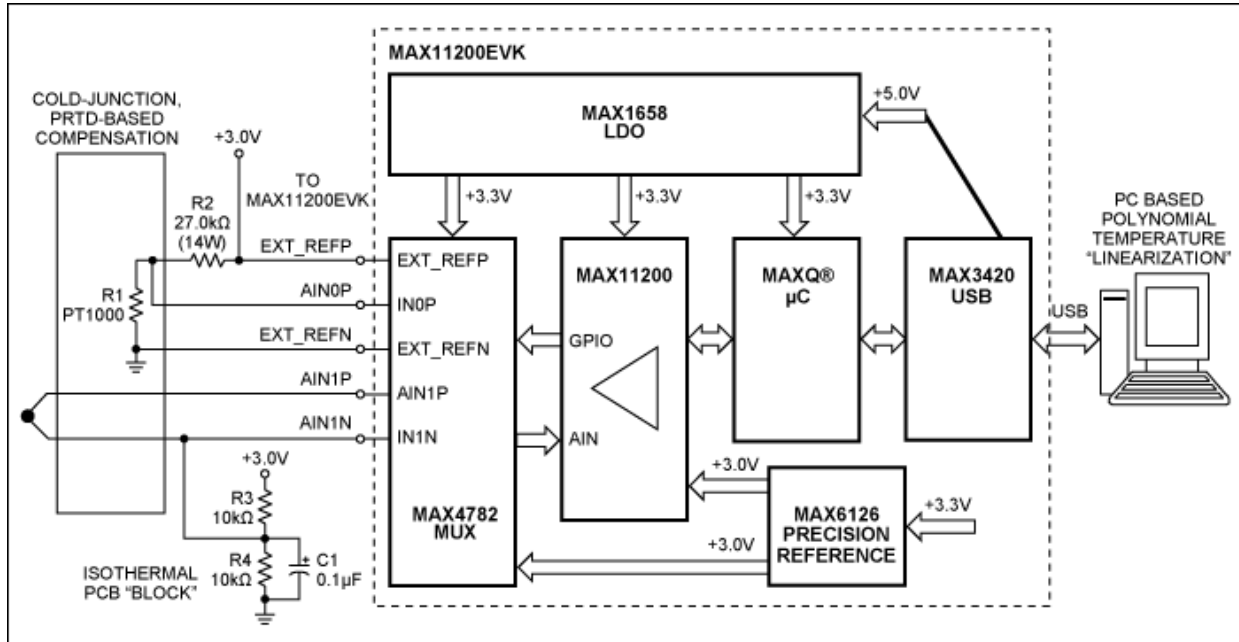

Figure 15. Simplified thermocouple DAS.
As an alternative to the MAX1402, the MAX1120/MAX11210 provide 24-bit resolution and support the high-performance, demanding applications. **Figure 15** is a simplified schematic showing a precision DAS that uses the 24-bit delta-sigma ADC MAX11200 evaluation (EV) kit and allows thermocouple temperature measurements. Here, R1 - PT1000 (PTS 1206, 1000Ω) is used for absolute temperature measurement of the cold junction. This solution allows the cold junction temperature to be measured with  $\pm 0.30^\circ\text{C}$  accuracy, or better.1